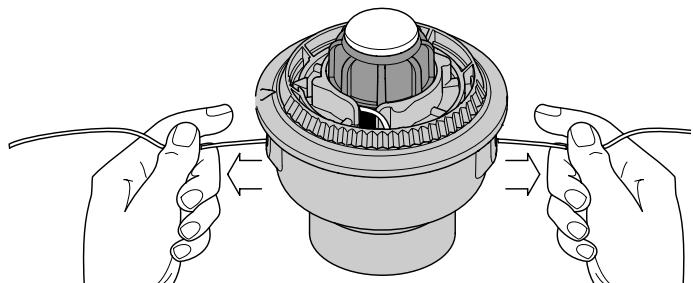

Figure 20
9. If winding the line becomes difficult or if the line jams, pull the ends of the line from the spool. See Figure 20. Continue winding the inner reel counterclockwise.
If the SpeedSpool® does not release line correctly, pull the ends of the line firmly from the spool. See Figure 20. If this does not release line, follow the *Cleaning the SpeedSpool®* instructions.